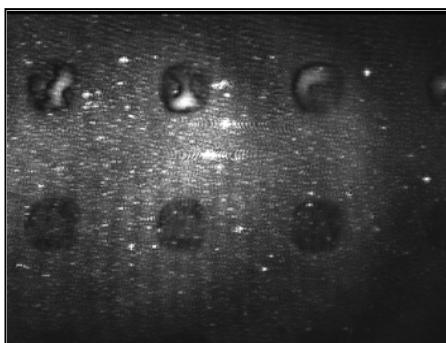
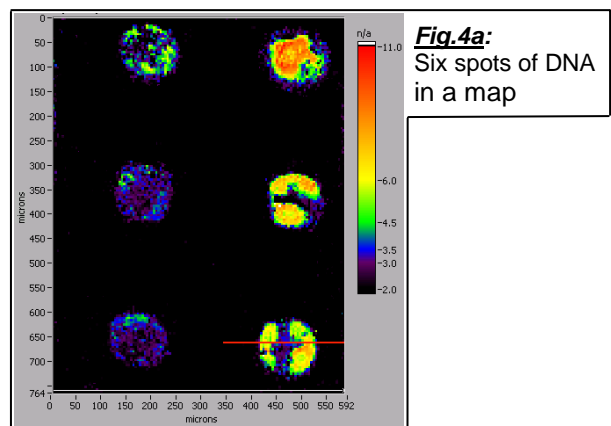

Fig.1: Contrast image 0.8 mm x 1 mm
Fig.4a: Six spots of DNA in a map
1. Visualization of spots appr. 1° next to the Brewster angle of the substrate (typically 56°) with standard EP³ (fig.1) or ArrayInspector (fig.2)
of incidence (AOI) spectrum (fig.3) on the activation layer around the spots is recorded. One obtains effective refractive index n_s and effective extinction k_s of the effective substrate which is including the activation layer. Then one records another spectrum on one of the spots. This second spectrum is fitted with n_s and k_s obtained from the first spectrum. Thickness d , refractive index n , and extinction k of the reaction layer are the results of this fitting. Use n and k of the reaction layer in the optical model. With this optical model finally a Δ -map is converted into a thickness(-map) (fig.4a).
1. Optical properties i.e. thickness (mass density), refractive index, extinction have been measured for the reaction layer in order to enable a thickness map (fig. 4a) of the micro array
2. Irregularities of shape and thickness of the spots in a micro array have been observed with high lateral resolution in the thickness map (fig. 4a) and in the contrast image (fig. 1)